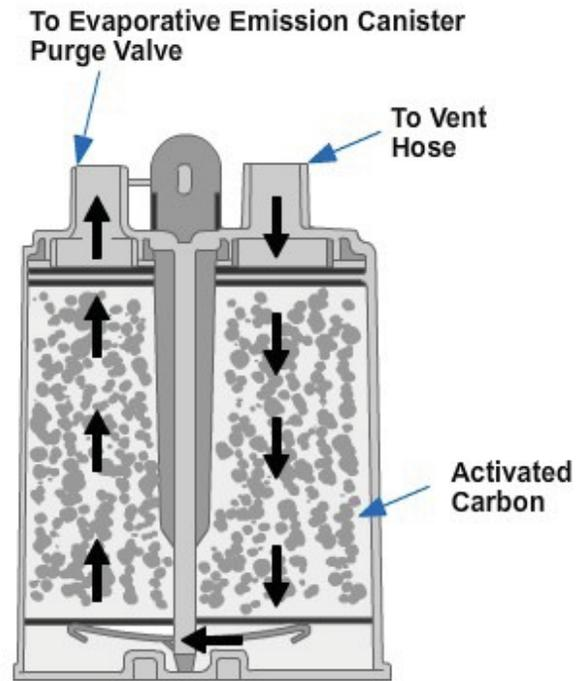

Figure 5-112 – Cutaway view of a charcoal canister.
- **Charcoal canister** stores fuel vapors when the engine is not running. The metal or plastic canister is filled with activated charcoal granules, as shown in *Figure 5-112*. The charcoal is capable of absorbing fuel vapors. The top of the canister has fittings for the fuel tank vent line and the purge (cleaning) line. The bottom of the canister may have an inlet filter that cleans the outside air entering the canister.